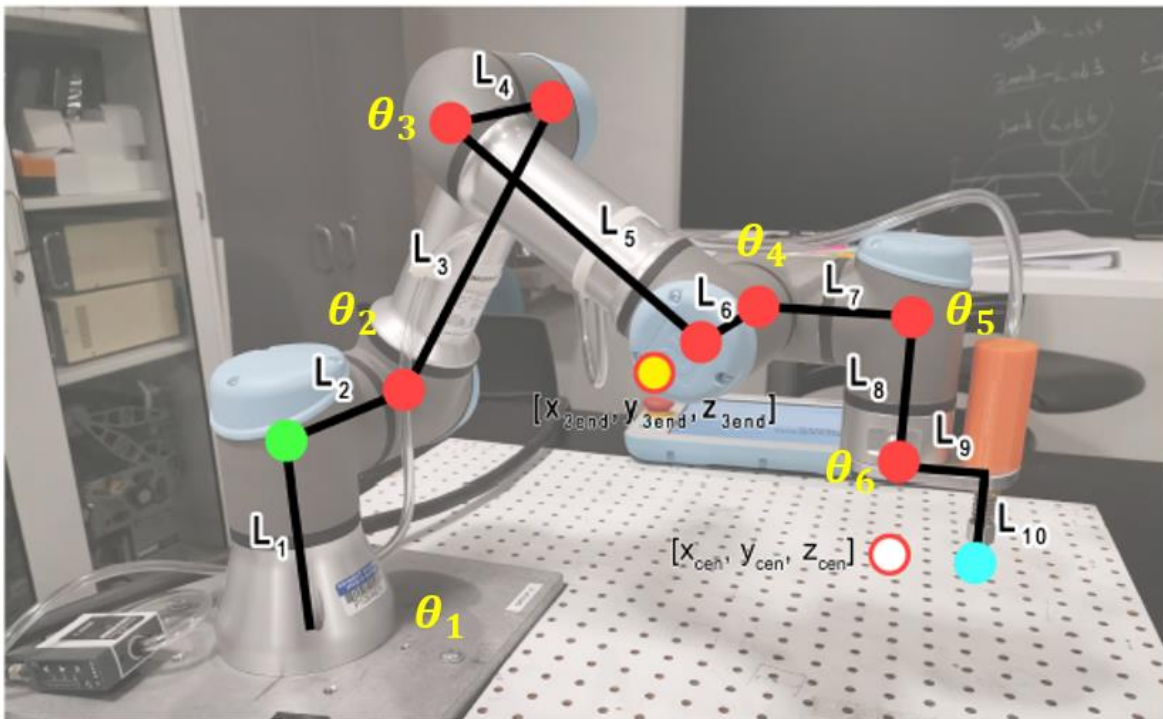

Figure 1. Joints and links of UR3
The joints and links of the UR3 robot are annotated in Figure 1. The goal is to find the rotation angles of the 6 joints ($\theta_1, \dots, \theta_6$), so that the end-effector (end of Link 10) can reach to a given position ($x_{grip}, y_{grip}, z_{grip}$) and orientation $\{\theta_{yaw}, \theta_{pitch}, \theta_{roll}\}$ input by the user.
2. We will define a "wrist center" as z_{cen} which equals the same desired z value of the vacuum gripper, and x_{cen}, y_{cen} are the coordinates of θ_6 's z axis (see Figure 1). Link 9 (gripper plate) has a length of 0.0535 meters from the center line of the gripper to the center line of Joint 6. Given the desired position of the gripper $(x_{grip}, y_{grip}, z_{grip})$ in the base frame and the yaw angle, find wrist's center point $(x_{cen}, y_{cen}, z_{cen})$.
5. We will define another virtual point. A projected end point $(x_{3end}, y_{3end}, z_{3end})$ is a point off the UR3 but lies along the Link 6 axis, as shown in Figure 1 and Figure 3. For example, if $\theta_1 = 0$ then $y_{3end} = 0$. If $\theta_1 = 90^\circ$ then $x_{3end} = 0$. Use the top-down view (Figure 3) to find x_{3end} and y_{3end} from x_{cen}, y_{cen} . Figure 4 is a side view that is a projection of the robot onto a plane perpendicular to the x - y plane of world frame and rotated by θ_1 about the base frame. From this figure we can see that z_{3end} is z_{cen} offset by a constant. The end of the gripper is 0.052m from the center of the gripper plate in the z -axis direction.